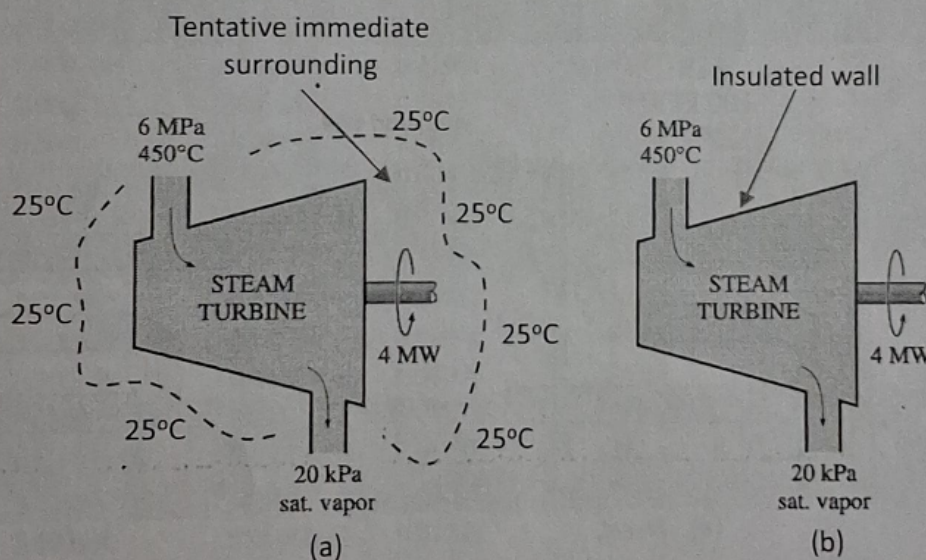

Figure 3
3. Steam expands in an imperfectly insulated turbine steadily at a rate of $25,000 \text{ kg/h}$, entering at 6 MPa and 450°C and leaving at 20 kPa as saturated vapor. The power generated by the turbine is 4 MW . The immediate surrounding medium is at a temperature of 25°C . See Fig. 3(a). Neglect changes in the kinetic and potential energies.
- (b) Consider another situation (hereafter referred to as "*Insulated Case*") where the turbine set-up is perfectly insulated, for the given inlet conditions and exit pressure and identical work output. See Fig. 3(b). Determine the isentropic efficiency η_T of the turbine corresponding to the "*Insulated Case*". [2 Marks]